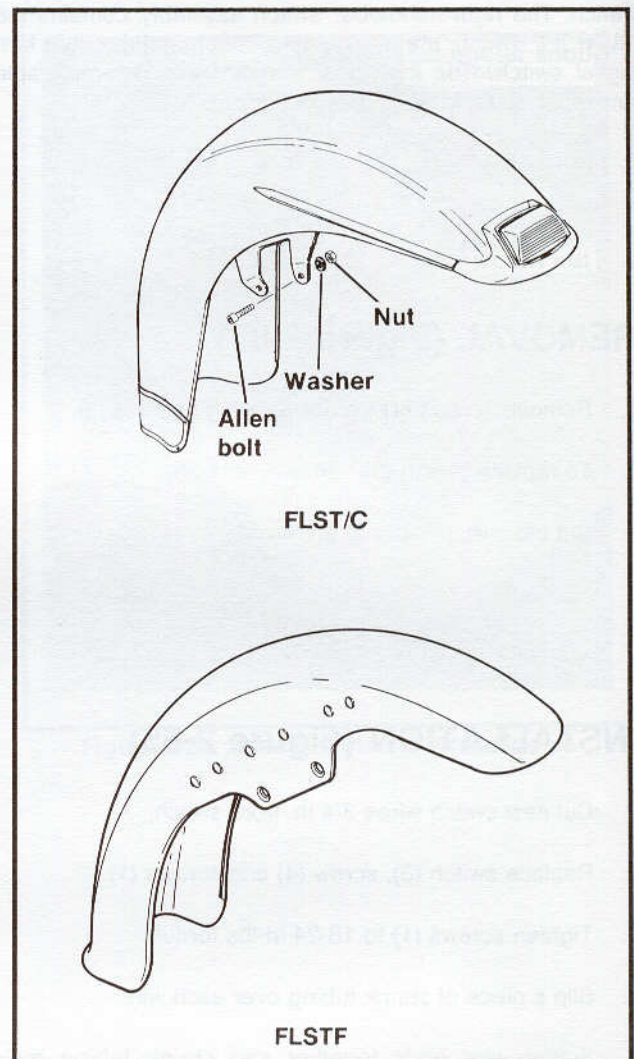

Figure 2-87. Front Fender - FLSTC/F
2. See Figure 2-87. Remove allen bolts, washers and nuts. Disconnect fender tip lamp on FLSTC.
1. See Figure 2-87. Put fender in position and install allen bolts, washers and nuts. Connect fender tip lamp on FLSTC/F.